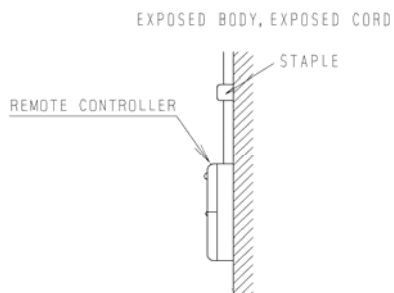
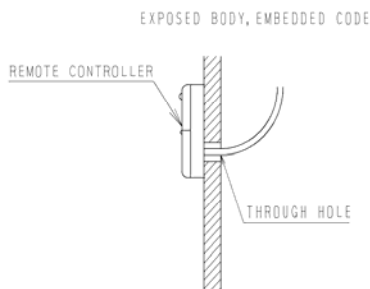

Fig.30
Fig.31
4. If the control wire between the wired remote controller and the indoor unit is surface-mounted, use 1# metallic pipe and make matching recess in the wall (refer to Fig. 30); If concealed installation is adopted, 1# metallic pipe can be used (Refer to Fig. 31).